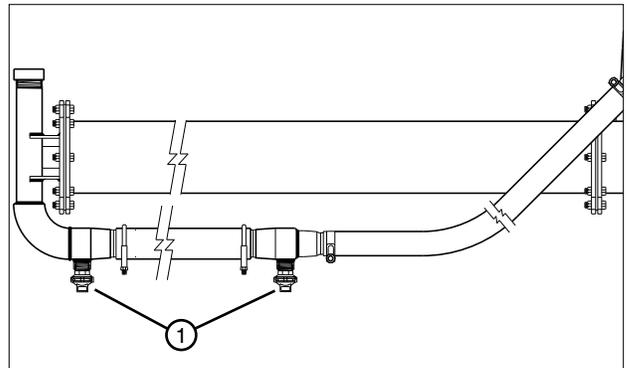

Figure 69-2 1. Booster Pump Hose Drain
7. Make sure the booster pump hose drain is not plugged with sand. See Figure 69-2.